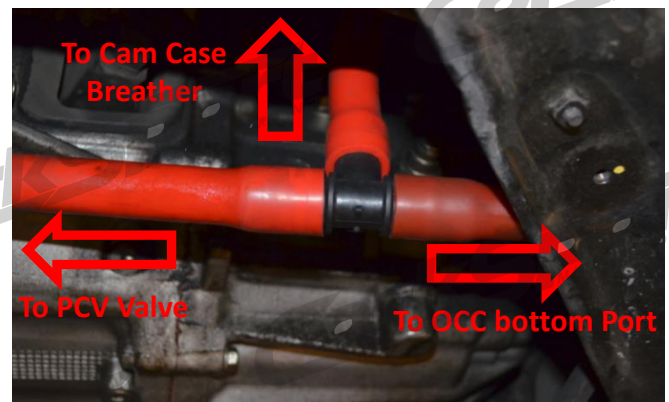

Figure 3h
- “T” the hose connected in step 3c to the hose connected in step 3f.** Use the supplied vacuum T (shown in **Figure 3h**). Trim the hoses as necessary to prevent kinking and interference with moving parts.
- g) **"T" the hose connected in step 3c to the hose connected in step 3f.** Use the supplied vacuum T (shown in **Figure 3h**). Trim the hoses as necessary to prevent kinking and interference with moving parts.